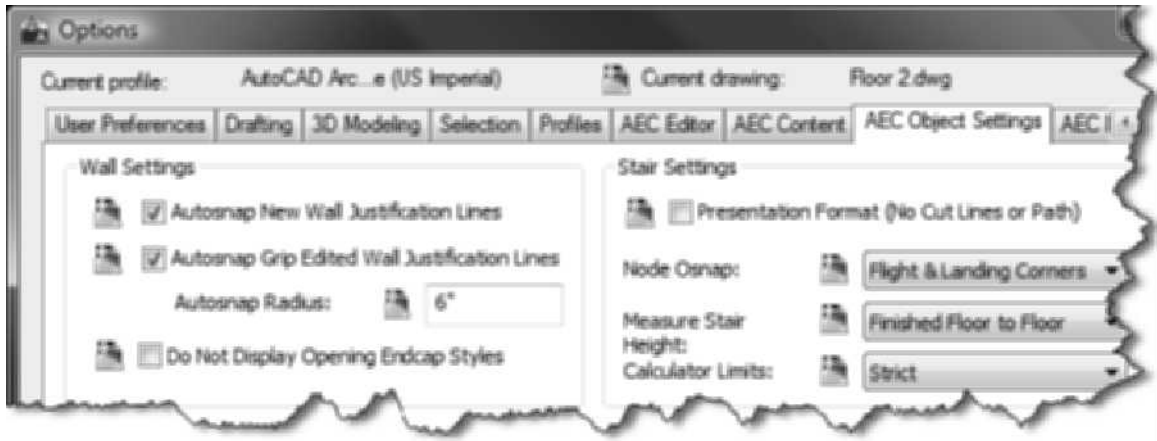

FIGURE 2.70 AEC Object Settings tab of the Options dialog box
18. Select the AEC Object Settings tab, and verify that the following are checked ON as shown in Figure 2.70: Autosnap New Wall Justification Lines, Autosnap Grip Edited Wall Justification Lines, and Autosnap Radius = 6" [75].